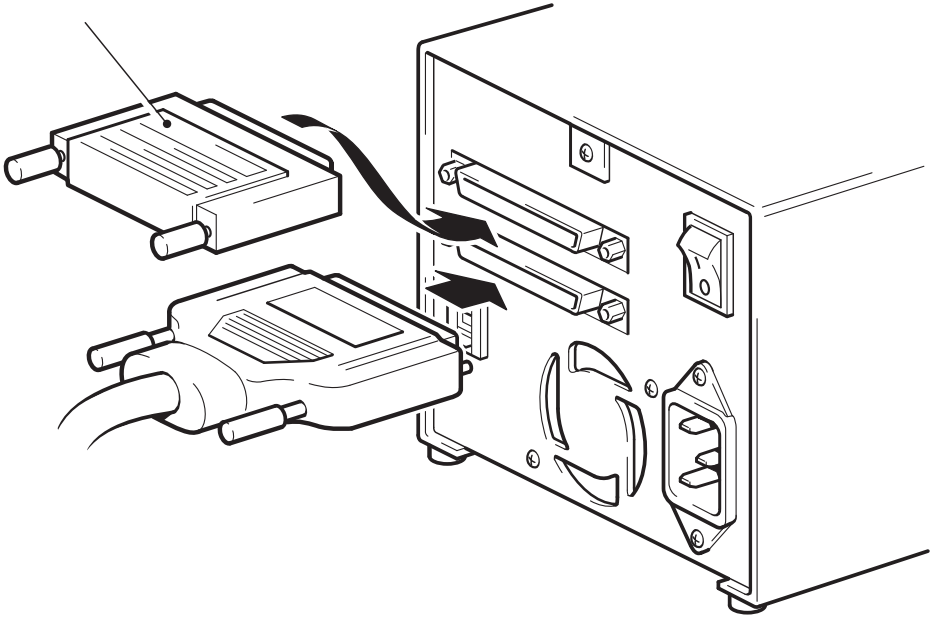

Figure 5: connecting the SCSI cable
- 4 Attach the HD connection on the SCSI cable to one of the SCSI connectors on the rear panel of the tape drive and secure it by tightening the screws. (See figure 5.)